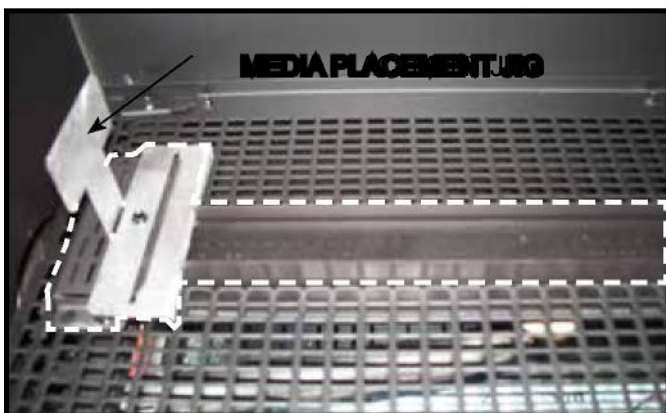

Figure 11.7 Media Placement Jig in Place
2. The included media placement jig, shown in Figure 2, **MUST** be used any time media are placed on the burner to ensure that none end up in the burner lighting area. Verify that the media placement jig is correctly installed in place in the appliance. See Figure 11.7.
4. Place an even layer of media around the media tray as shown in Figure 11.8. Figure 11.7 shows an outline of the burner rails and the area in front of the pilot assembly.